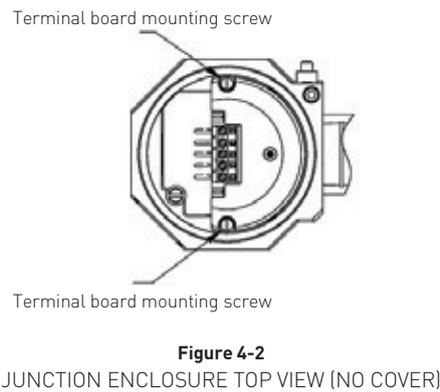
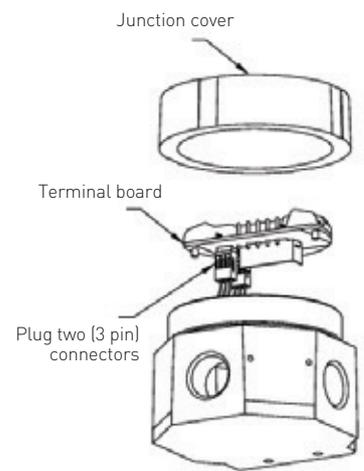

Figure 4-2
Figure 4-3
- 4.5.2 Locate terminal board mounting screws (See Figure 4-2), remove the two screws and lift up terminal board. (See Figure 4-3).